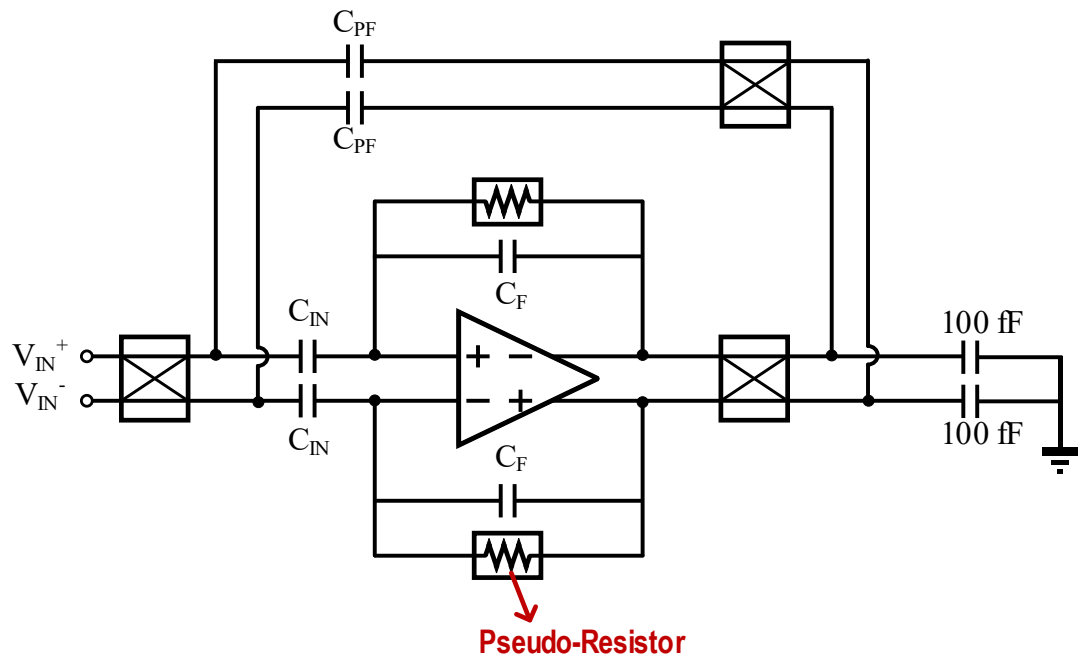

Fig 4: Chopper-stabilized amplifier with impedance-boosting loop
4. Simulate the input-impedance of your chopper-stabilized amplifier using transient or pac analysis. Implement a capacitive positive feedback loop to boost the input impedance (Fig. 4).